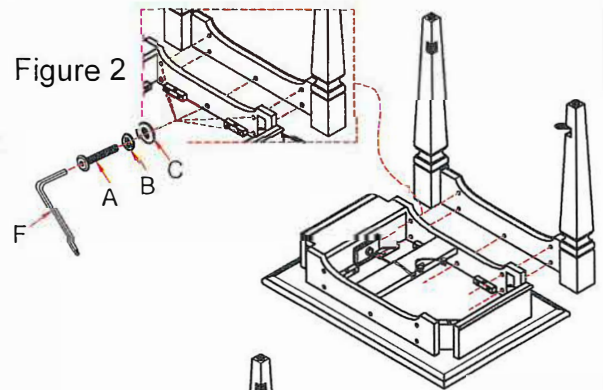

Figure 2
2. Attach leg frame on the table by using Flat washer (C), Lock Washer (B), Bolt (A) with Allen Key (F). (See Figure 2).